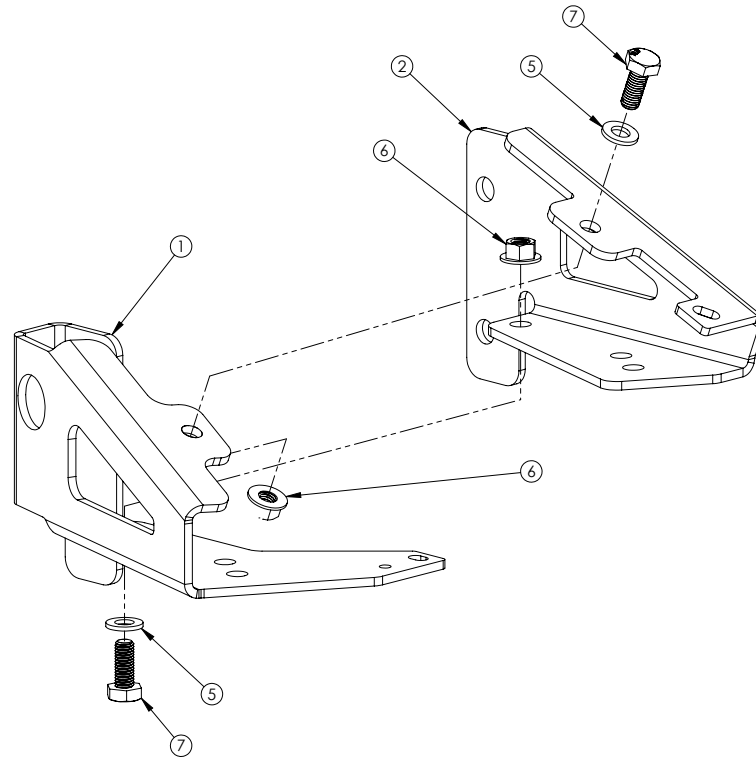

Figure 1
2. Align Amp Step Brackets ARMB3060/3061AA in correct orientation as shown (fig. 1). Insert (1) M10-1.5 x 25mm Bolt with an M10 Washer through the hole shown (fig. 1). Secure with M10 flange nut.